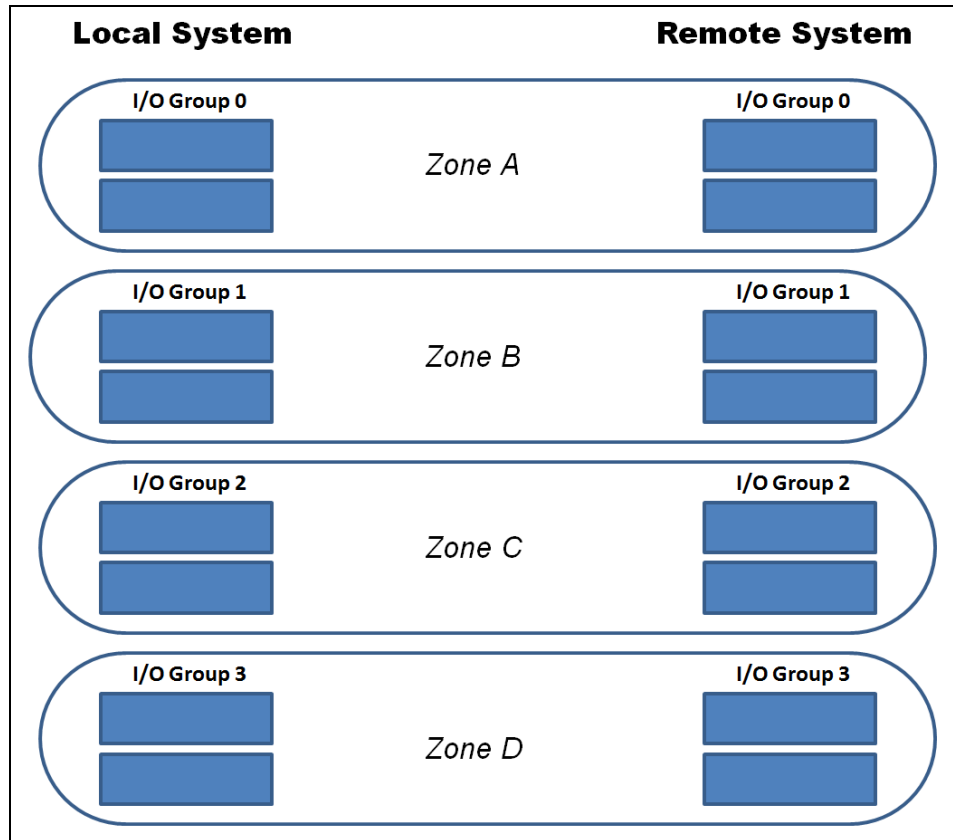

Figure 6-25 Zoning scheme for >80 ms remote copy partnerships
- ▶ For remote copy configurations where the round-trip latency between systems is more than 80 milliseconds, apply SAN zoning to provide separate intrasystem zones for each local-remote I/O group pair that is used for replication, as shown in Figure 6-25.